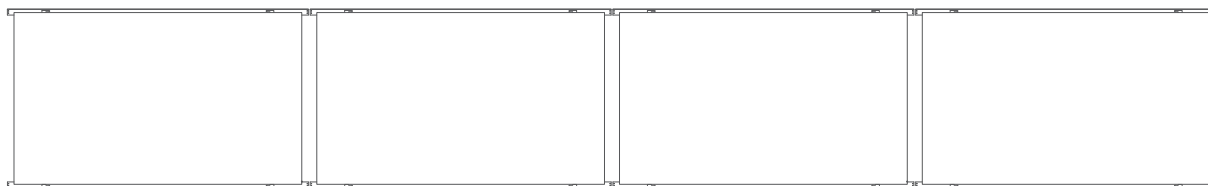
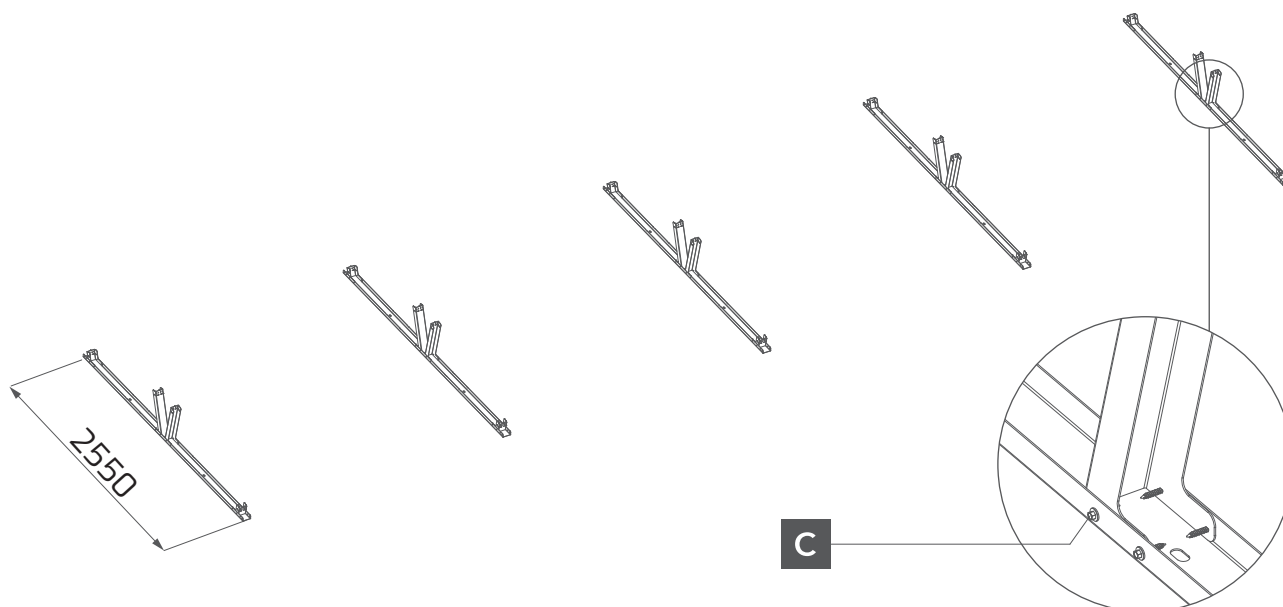

Fig. 1 Modular structure plan
Fig. 2 Arrangement of the mounting triangles
- 1 Before mounting, the installation plan for the modules (Fig. 1) and the mounting triangles (Fig. 2) must be determined. The way of fixing the mounting structure on the roof field depends on the type of roof and is chosen individually.